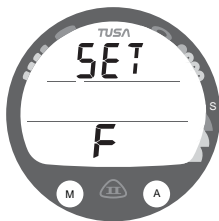

Fig. 14 - SET F (FO2)
- > Depressing the A and S buttons simultaneously for 2 seconds while the NORM (or GAUG) Surface Main screen is displayed will access the Set F screen (Fig. 14).